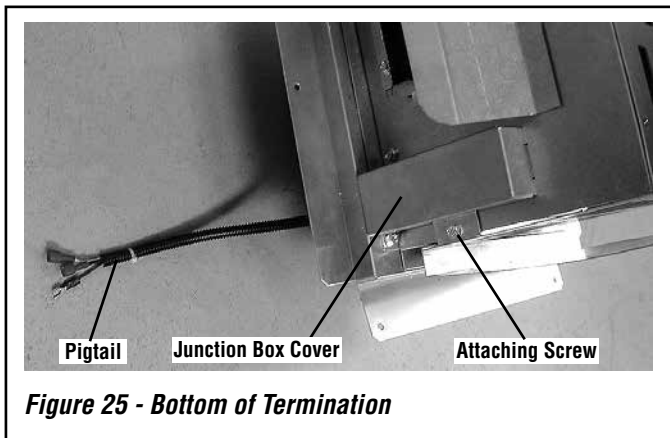

Figure 25 - Bottom of Termination
- Either use the integrated junction box, or position an electrical junction box (not provided) within reach of the termination wiring pigtail (see Figure 25 on Page 22). Route the pigtail to the junction box as the termination is installed.
- Remove the junction box cover from the termination by removing the attaching screw (see **Figure 25**).